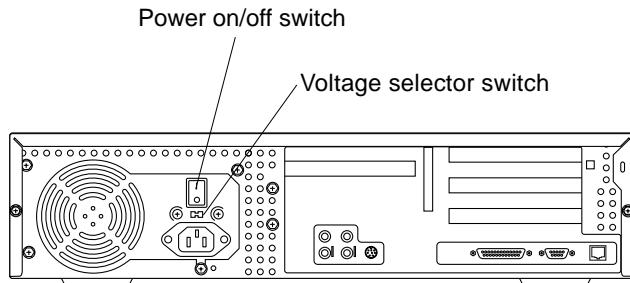

FIGURE 3 System Unit Power On/Off Switch (Ultra 5)
- c. Set the system unit power on/off switch to the off position (FIGURE 3).
d. If necessary, set the power on/off switch to the on position (FIGURE 3).